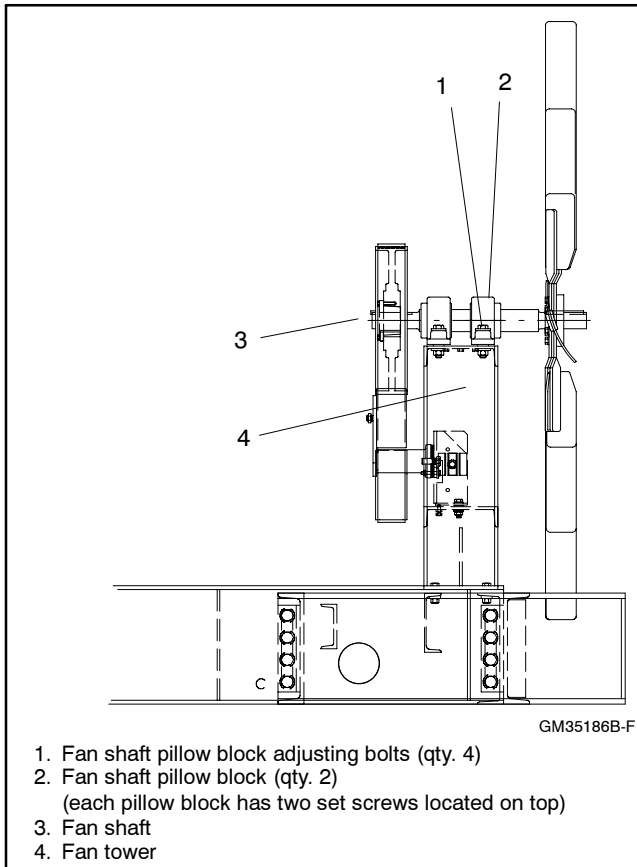

Figure 3-26 Idler Pulley Arm and Pulley Assembly
- c. Adjust the fan pulley shaft so that it extends 209 mm (8.23 in.) behind fan tower. See Figure 3-26.
- e. Loosen and remove set screws from the fan shaft pillow blocks. See Figure 3-26.